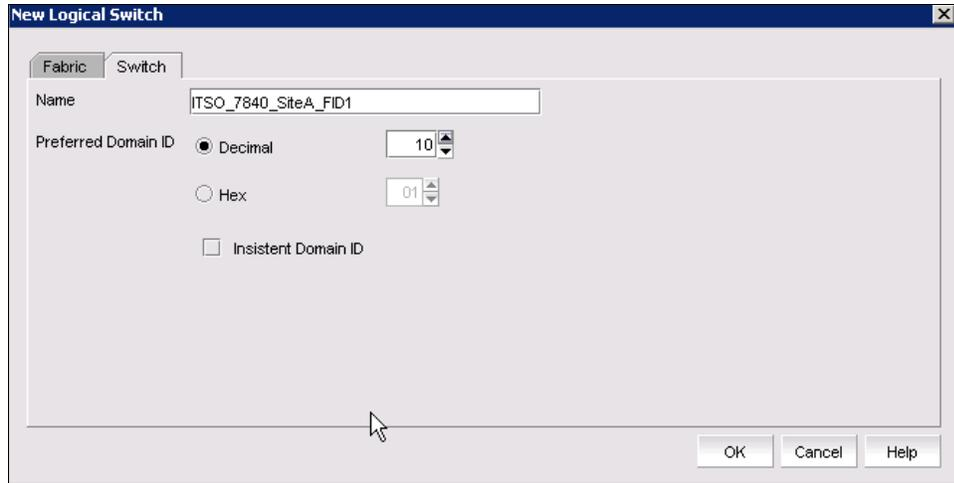

Figure 6-6 Assign a name and Domain ID for the base logical switch
6. Click the **Switch** tab and enter a name and domain ID for the base logical switch. Here we assign domain ID 10 for the domain ID and enter the name ITS0_7840_SiteA_FID1 for the base logical switch (Figure 6-6). The domain ID should be unique to other logical switches within the same fabric.